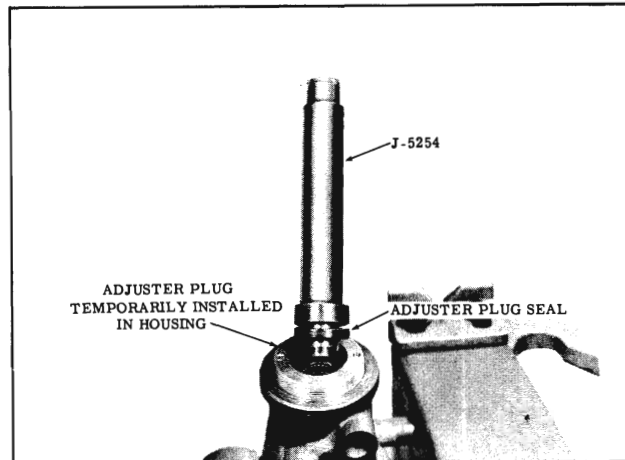

Fig. 4-50 Installing Seal
2. If seal was removed, temporarily install the adjuster plug in the gear housing and place dust seal and a new oil seal on Tool J-5254 (lip of seal away from tool). Lubricate seal with Hydra-Matic oil and drive or press seal into adjuster plug just far enough to provide clearance for the retaining ring. (Fig. 4-50) Tool J-5254 must be free of burrs that could scratch the seal.